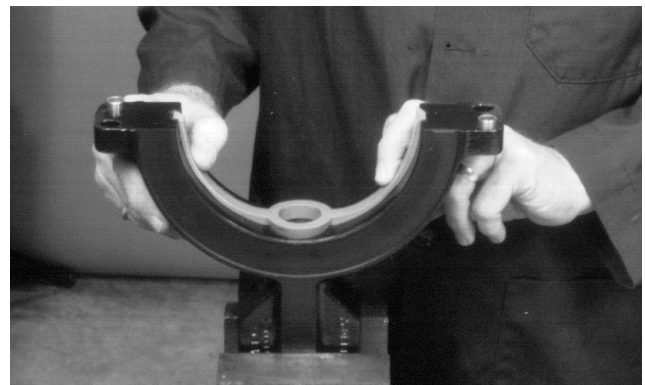

Figure 12
5. **Sizes 2" – 12:** Place the seat energizer (11) in the bottom body half (Figure 12). Be sure that the energizer is firmly pushed into the groove in the body. Also note the orientation of the angled cuts on the ends of the energizer. When placing the seat energizer into the top body half, the orientation of the angled cuts must be opposite to the bottom half.